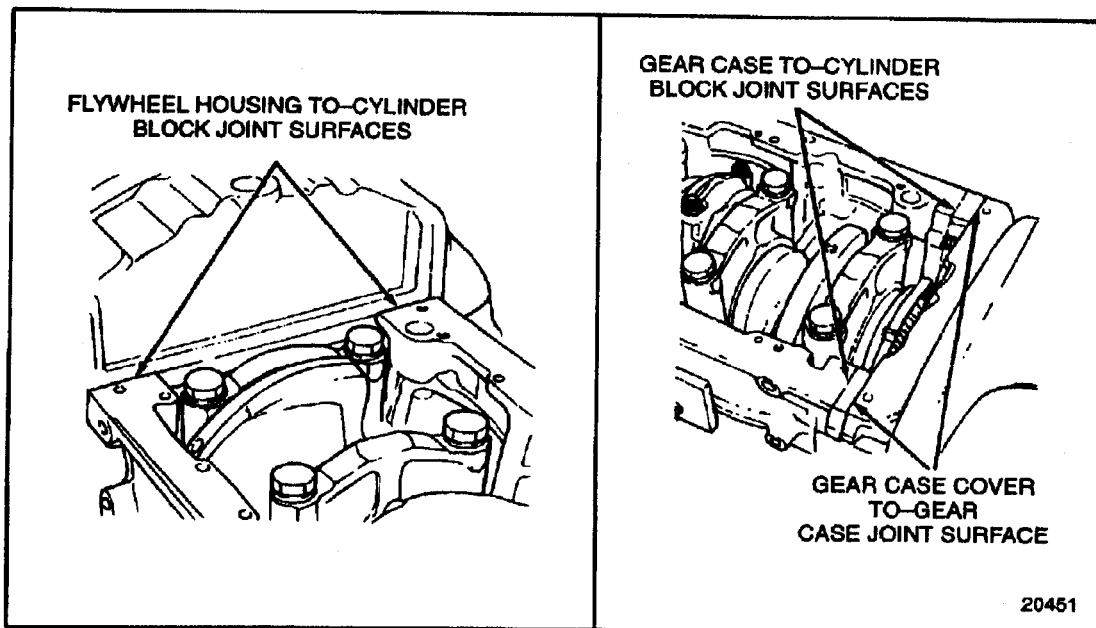

Figure 3-41 RTV Application
6. Apply a 3 mm (1/8 in.) bead of RTV across joints shown. See Figure 3-41.